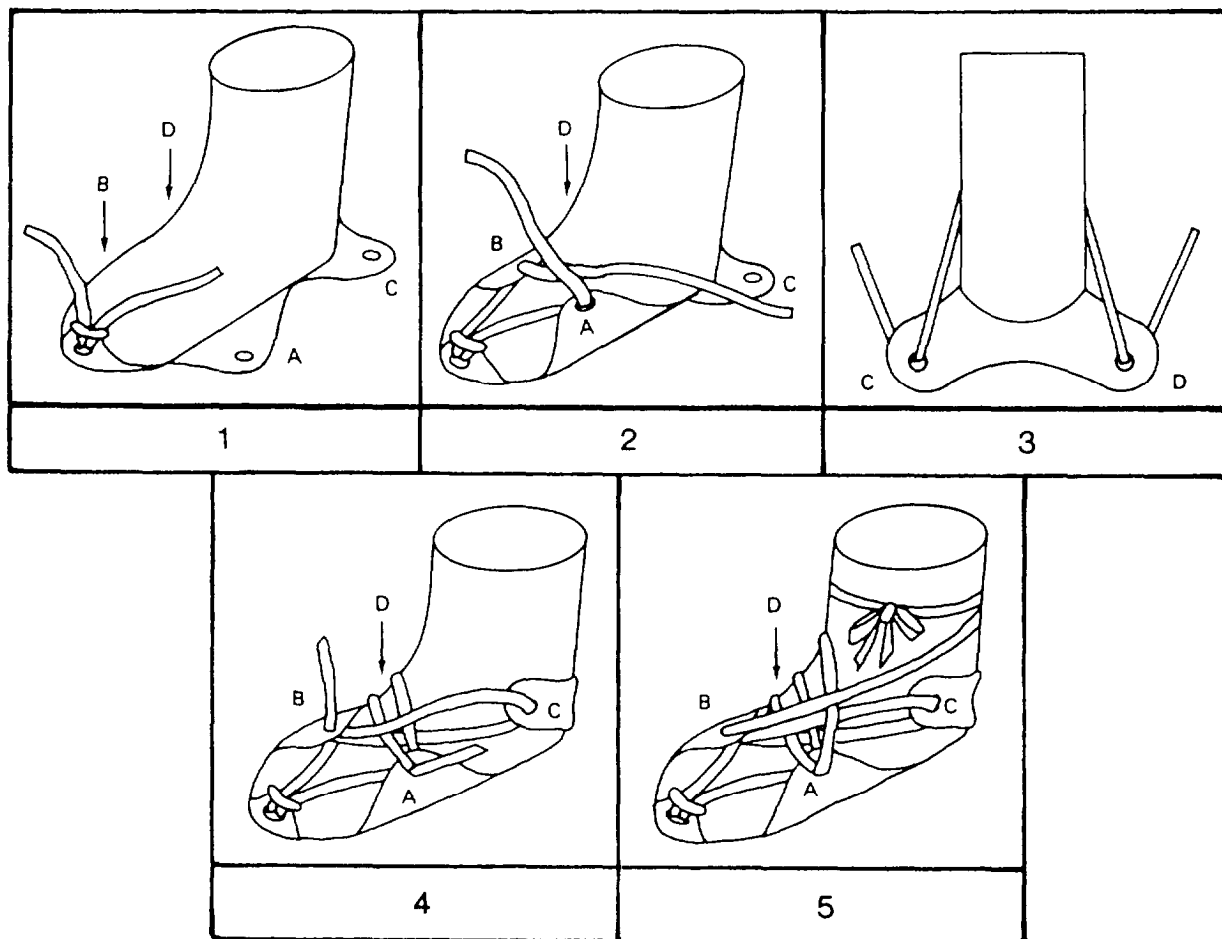

Figure 6-10.-Lacing the chemical-protective overboots.
6. Don the chemical-protective footwear cover (see fig. 6-10).
- a. Attach tie laces (in the center) to the toe loop. Be sure the laces are even (see fig. 6-10, view 1).
- b. Put one lace through A and one through B from the inside to the outside and pull until snug. Make sure the toe loop is over the top of your shoe (see fig. 6-10, view 2).
- c. Put one lace through C and one through D (on the opposite side of the foot, crossing the instep) from inside to outside. Pull until snug (see fig. 6-10, view 3).
- e. Thread the laces through A and B again, from inside to outside (see fig. 6-10, view 4).
- g. Wrap the laces behind the ankle and back to the front. Pull until snug and tie securely (see fig. 6-10, view 5).